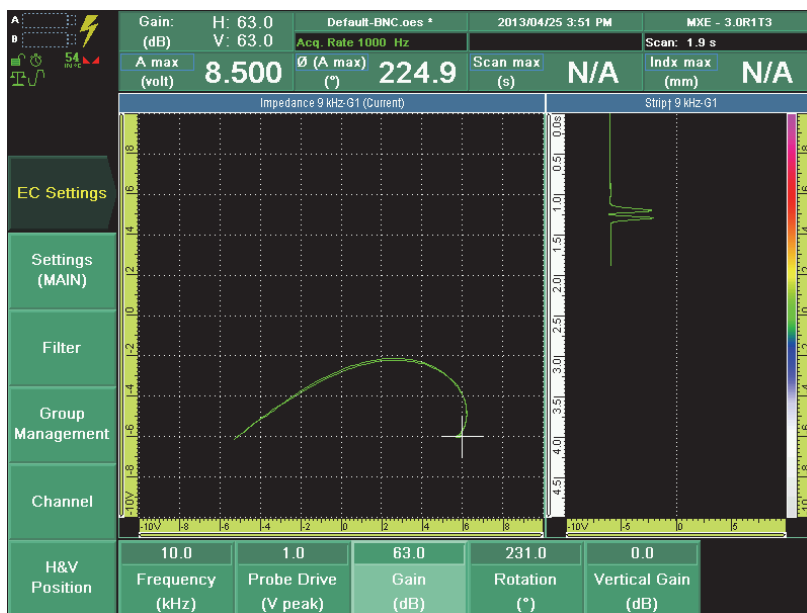

Figure 9-35 Configuring the Frequency, Gain, and Rotation parameters for mixing frequency 1
- Select **Frequency (kHz)**. In this example, the **Frequency (kHz)** value is set to 10.0 (see Figure 9-35 on page 181).
the Accept key to confirm. In this example, the **Gain (dB)** value is set to 63.0 (see Figure 9-35 on page 181).